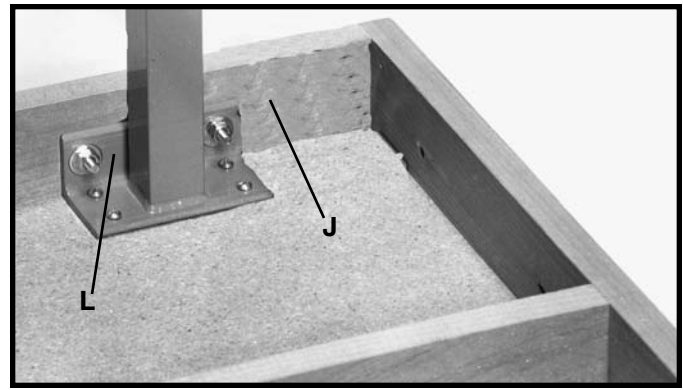

Fig. 93
2. Fasten the leg bracket (L) Fig. 93, to the end piece (J) of the table using the two 1-1/2" long flat head Phillips screws, flat washers and hex nuts. Fasten the remaining leg to the extension table in the same manner.